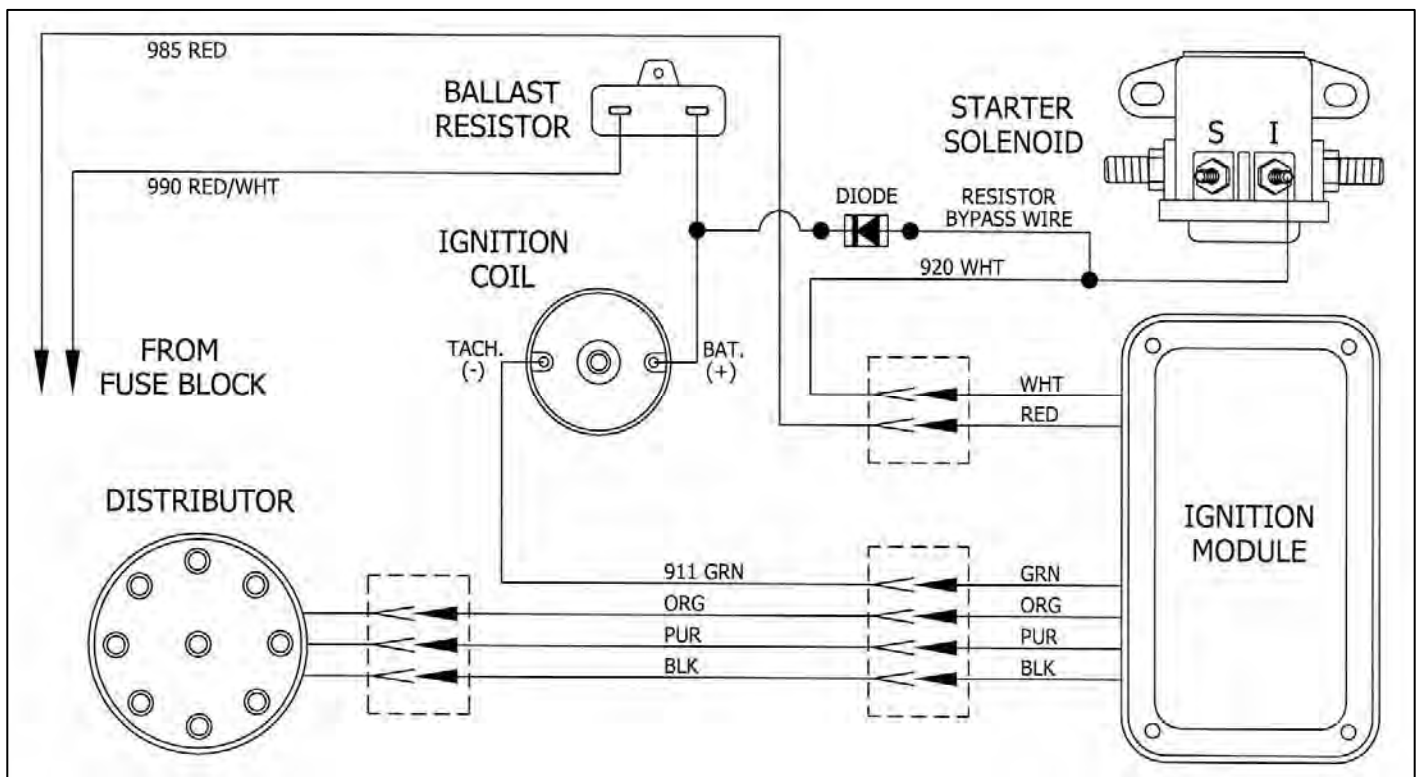

Figure 7-5 Ford Ignition (Duraspark II Systems)
- 7.5.6 Connect a 16-gauge #920 (wht) wire from the Starter Solenoid Ignition “I” terminal to the coil side of the Ballast Resistor. This wire serves as a ballast resistor BYPASS during engine starting. **Note: If you are using electronic ignition and the resistor bypass wire you must install a diode (Radio Shack #276-1661) in wire #920 (wht) with the arrow or (current) pointing away from the starter solenoid, See Figure 7-5.** If you are not using a ballast resistor, leave the Starter Solenoid Ignition “I” terminal unconnected.